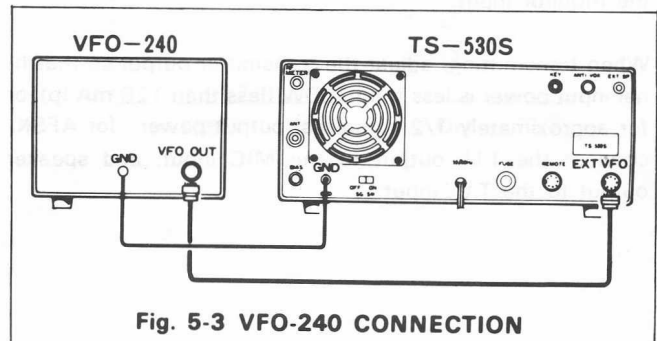

Fig. 5-3 VFO-240 CONNECTION
■ VFO-240 CONNECTION (Fig. 5-3)